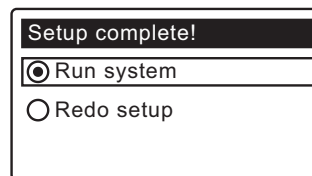

FIG. 19
- 8.** Press the SELECT (○) button. The screen will show “Setup complete!” (See Figure 19).
- 10.** If no changes are desired, make sure **Run system** has a black dot next to it (See Figure 19) and press the SELECT (○) button. The unit begins normal operation, described on the next page.